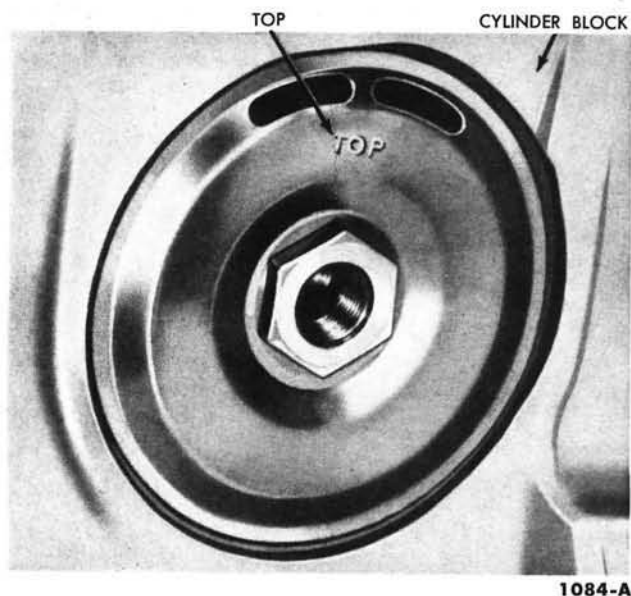

FIG. 71—Anti-Drain Back Diaphragm Position
4. Check to see if the two elongated holes in the oil filter anti-drain back diaphragm are in the up position (Fig. 71). Clean the cylinder block filter recess, then install a new gasket. Place the filter assembly in position, and thread the center bolt into the adapter finger tight. Rotate the filter slightly, in each direction, to make sure the gasket is seated evenly. Tighten the center bolt to 20-25 foot-pounds torque. **Do not overtighten the center bolt.**